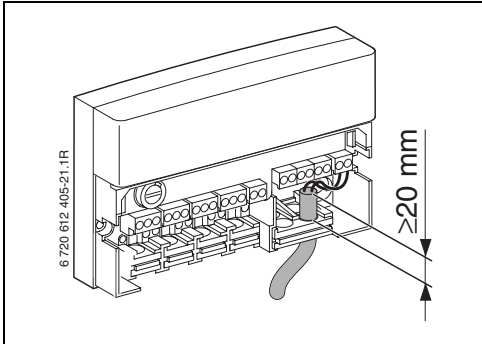

Fig. 8
To safeguard the splashproof rating (IP): Route cables so that the cable sheath protrudes at least 20 mm into the cable grommet (→ Fig. 8).